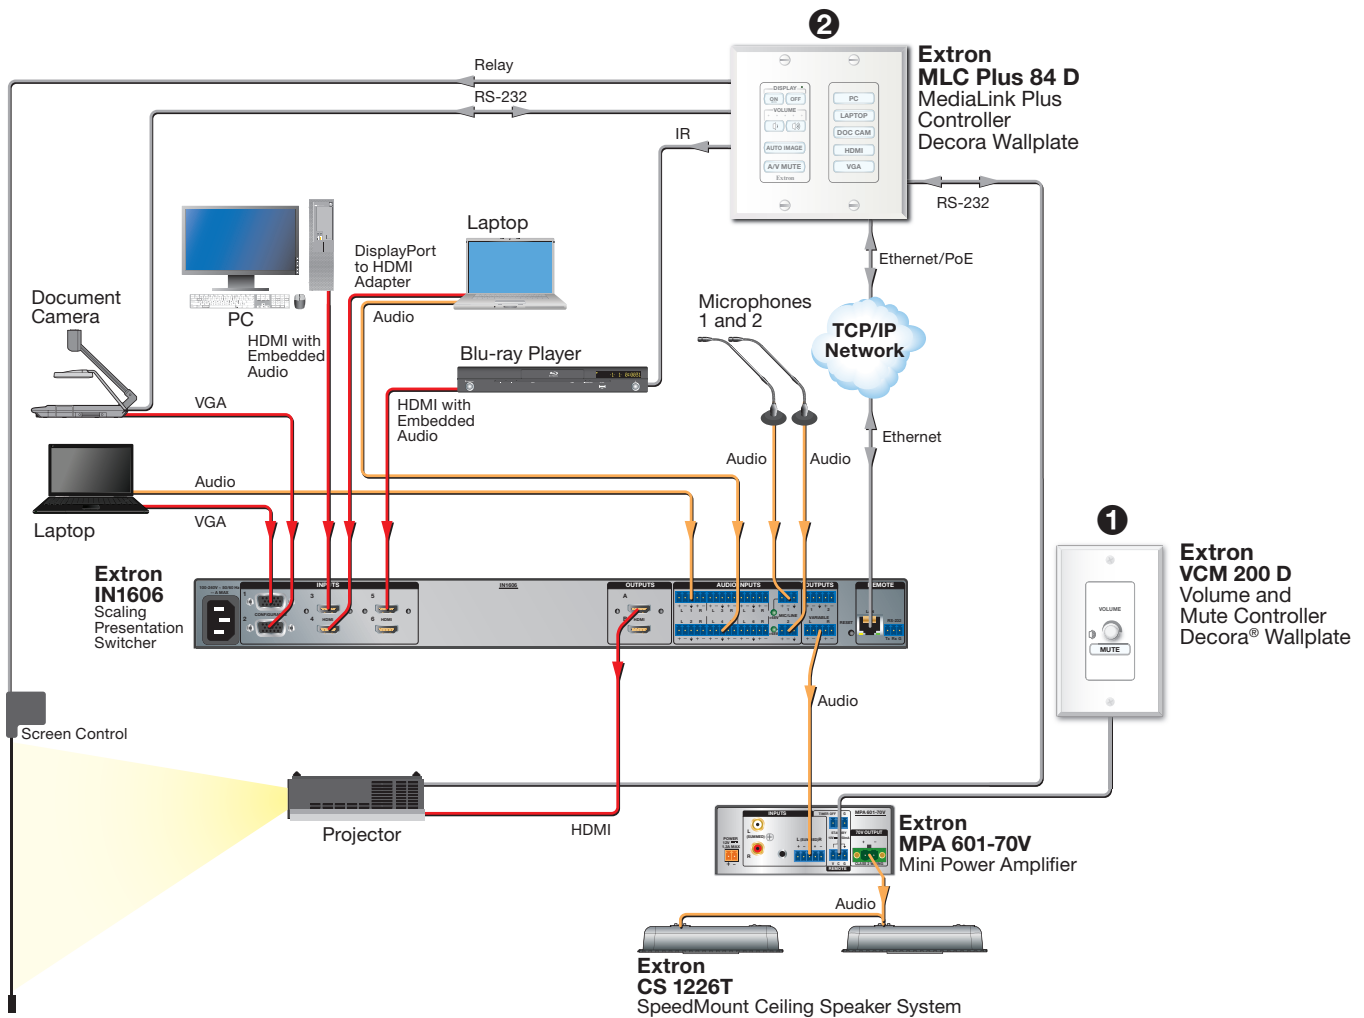

Figure 14. Direct and Indirect Remote Control Options
- 1 Direct Remote Control** — For a system designed to control the volume of the amplifier directly, use a 10k Ohm potentiometer to control volume via the rear panel remote port on the MPA 601 (see figure 2, **G** on page 5). In figure 14 above, a VCM 200 D adjusts the level on the MPA 601 directly. Follow instructions found in the control product user guide.
- 2 Indirect Remote Control** — For a system with variable audio output, connect the audio source output to the input of the MPA 601. In figure 14 above, an MLC Plus 84 D adjusts the audio level on the audio source via a network connection. Follow the instructions in the control product user guide.